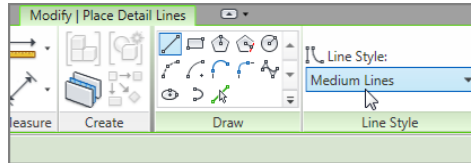

FIGURE 12.43: Select the Medium Lines choice in the Line Style menu.
3. In the Line Style menu, select Medium Lines, as shown in Figure 12.43.